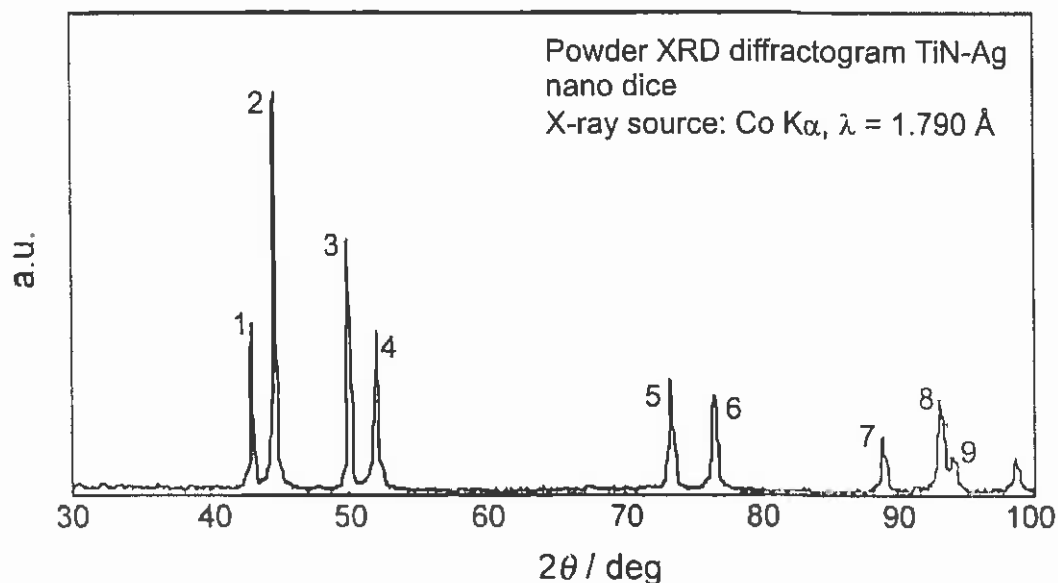

Figure 1: XRD diffractogram of TiN nanodice with Ag particles.
To determine the crystal structure, the sample of TiN nanodice with Ag nanoparticles is characterised by XRD. TiN has the rocksalt (NaCl crystal) structure (lattice parameter $a_0 = 4.235 \text{ \AA}$) and Ag is face centered cubic (f.c.c., $a_0 = 4.086 \text{ \AA}$). The obtained XRD pattern is shown in Figure 1. Table 1 gives the reflection positions. The characteristic X-ray used for this diffractogram is Co $K\alpha$, with $\lambda = 1.790 \text{ \AA}$. For this task assume that the diffraction rules for TiN and Ag are those for f.c.c.-lattice: h,k,l all odd or all even.
Table 1: $2\theta_{hkl}$ values of diffractogram shown in Figure 1.
Which of the peaks in Fig. 1 represent TiN-(111), TiN-(311) and Ag-(220)?
Table 1A: $2\theta_{hkl}$ values of diffractogram shown in Figure 1, d calculated with answer 3(b).
The relative spacings and intensities (in first approximation) of these rings are similar to the XRD diffractogram of Figure 1. See p97, p109 (worked out example), TEM lab text, TEM questionnaire and all students included in their case study report. Cu is not thin enough to give electron diffraction.